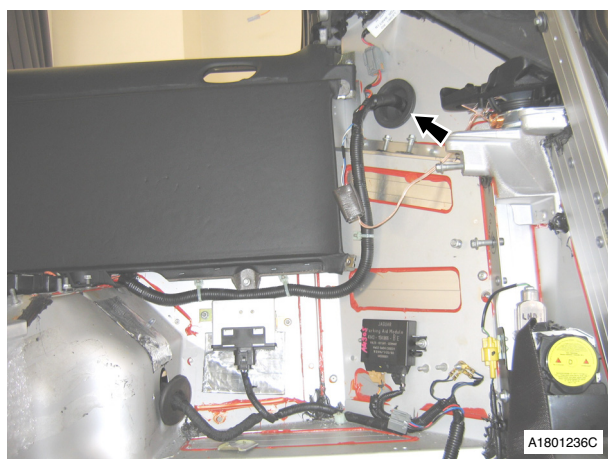

Fig. 21
56. Release LH grommet and feed harness from tailgate area (see Fig. 21).